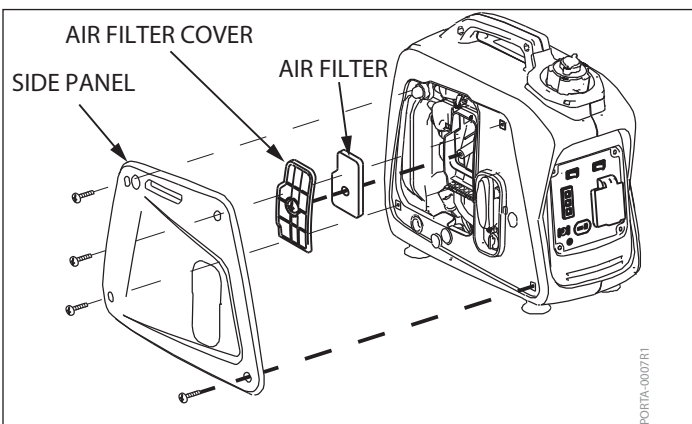

FIGURE 8
1. Remove the side panel on the starter handle side of the generator by loosening the four screws holding it in place. **SEE FIGURE 8**